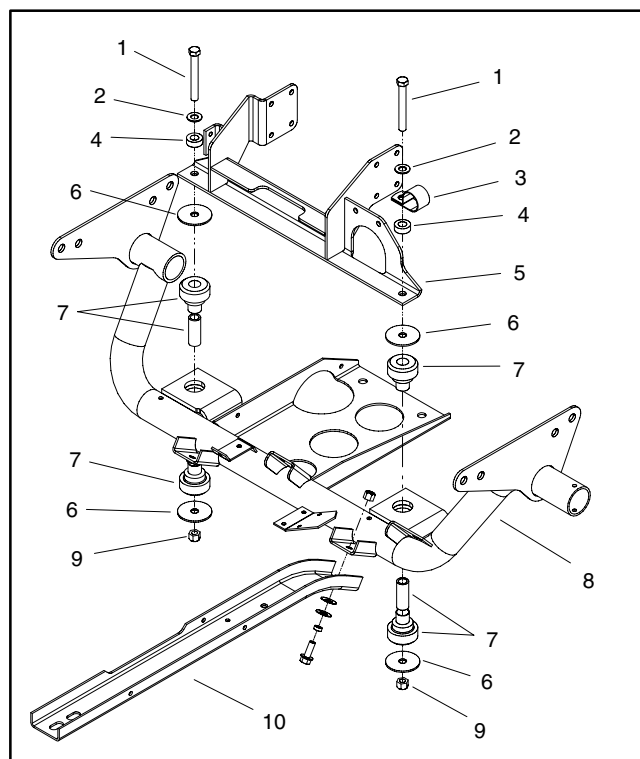

Figure 13
15. Loosen and remove two (2) locknuts (Item 9) and cap screws (Item 1) that secure engine mount to engine support (Fig. 13). Locate and retrieve flat washers (item 2), spacers (item 4) and snubbing washers (item 6).